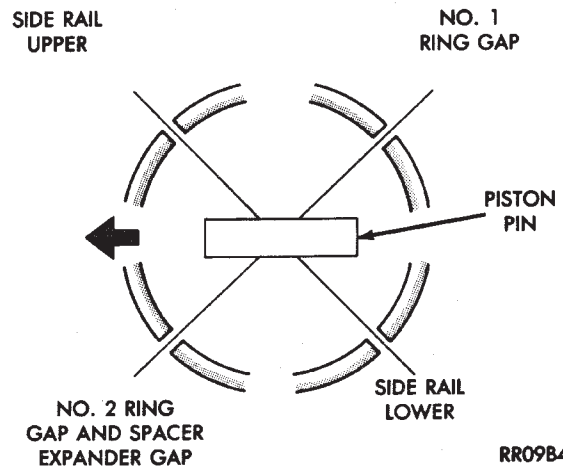

Fig. 11 Piston Ring End Gap Location
(4) Position piston ring end gaps as shown in (Fig. 11).